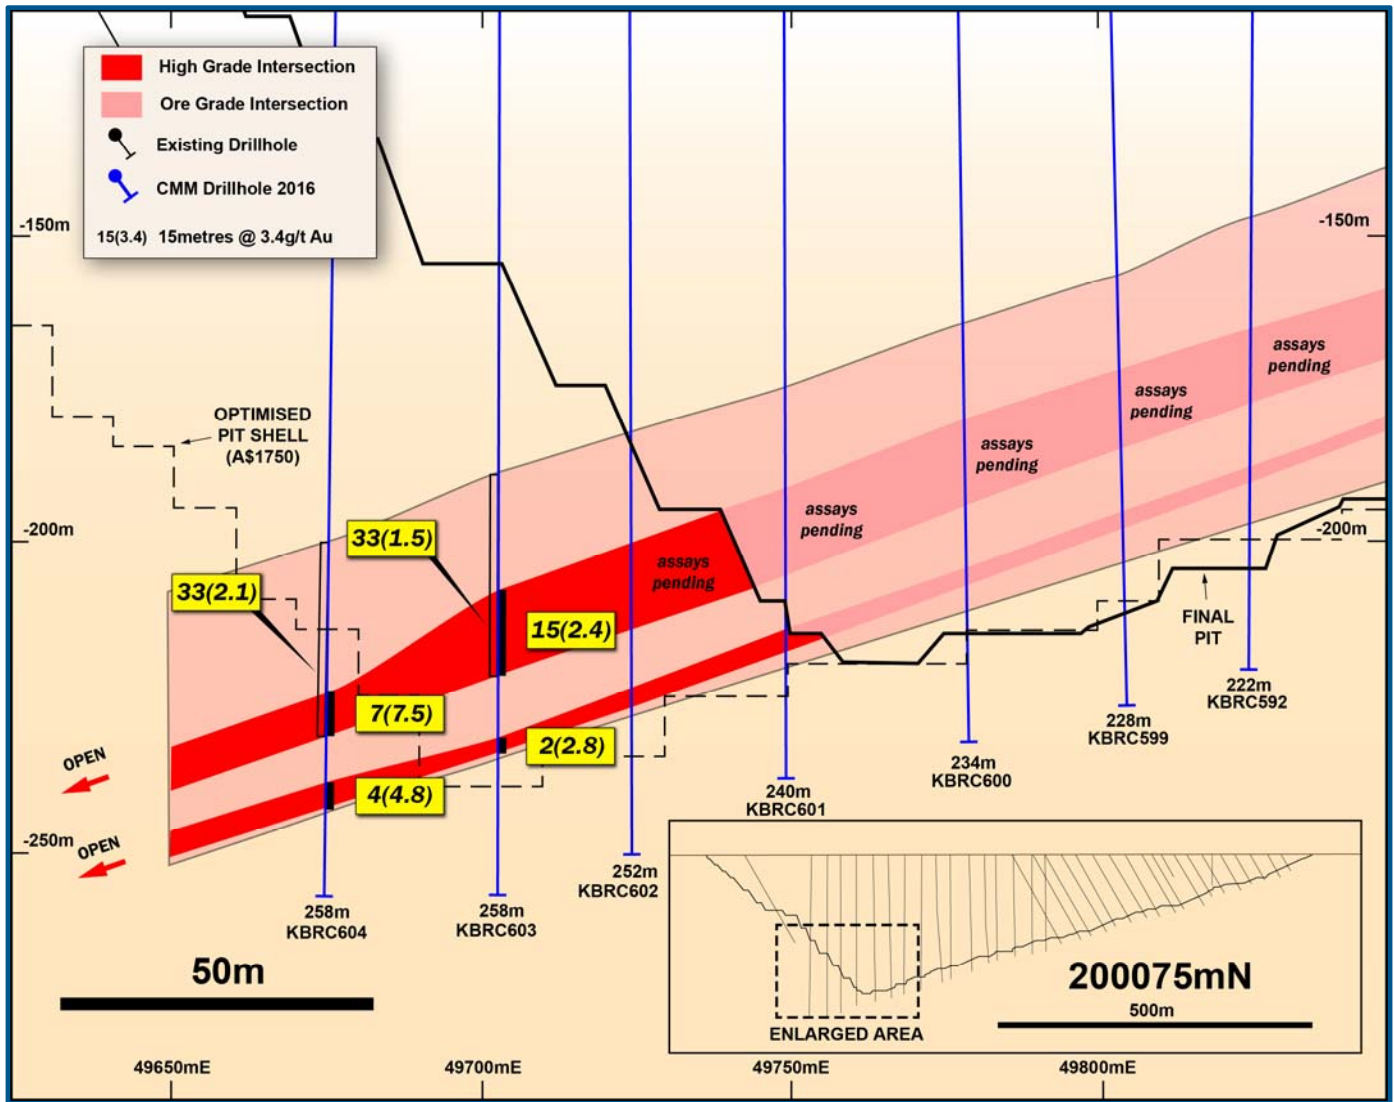

Figure 2: Interpreted Cross Section 200,075mN
- In-fill resource drilling has intersected significantly higher-grade mineralisation than predicted on section 200,075N in the central part of the Bibra Deposit (Figures 2 and 4). Two holes drilled in this position have intersected a broad zone of gold mineralization with a consistent higher-grade core (see Appendix 2 for details). Assay results received to date from this position include: